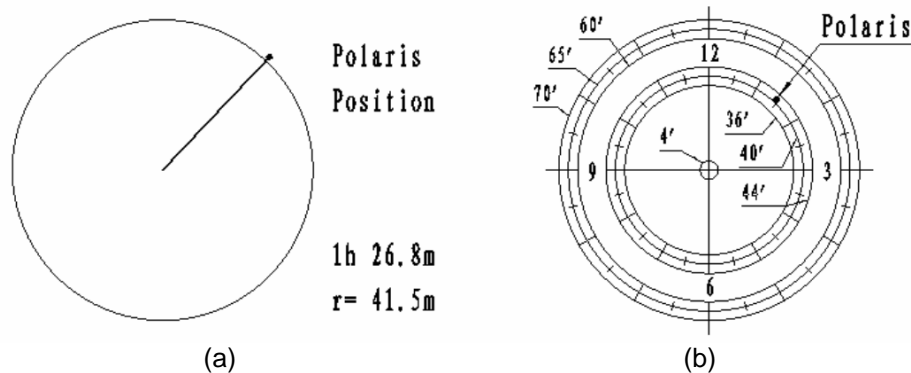

Figure 9
- (5) Waiting “GPS OK” is shown in the upper right corner of the HC. If you are practicing inside or the GPS signal is weak, manually enter the correct site information and locate time. Pressing the **MENU** button, then select “**Align**” and “**Polaris Position**” to display the Polaris Position on the LCD screen, as shown in Figure 9(a). For example, May 30, 2010, 20:00:00 at Boston, US (alt N42°30’32” and long W71°08’50”), 300 min behind UT, the Polaris Position are 1h26.8m and 41.5m.
- (6) Follow Polar Axis Adjustment procedure to adjust the mount in altitude and azimuth directions and put the Polaris in same position on the Polar Scope Dial as indicated on the HC LCD, as shown in Figure 9 (b).